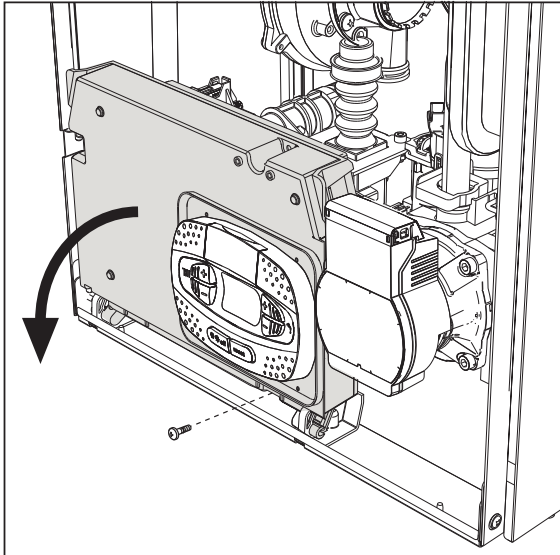
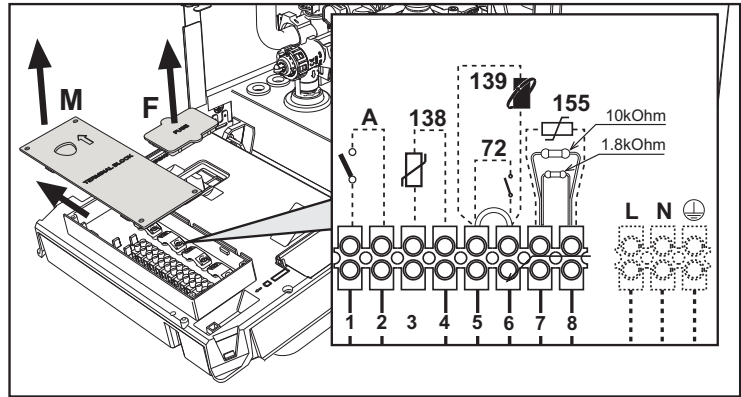

fig. 20
fig. 21
Remove the front panel ( \*\*\* 'Opening the front panel' on page 182 \*\*\* ) to access the terminal block (M) and fuse (F) by proceeding as follows (fig. 20 and fig. 21). **The terminals indicated in fig. 21 must be with voltage-free contacts (not 230V).** The arrangement of the terminals for the various connections is also given in the wiring diagram in fig. 57.